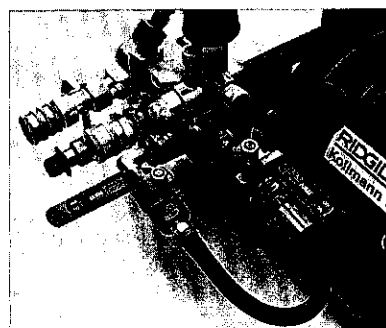

Figure 8. For power washing both valves are "OFF" for maximum pressure.
**For Pressure Washing**, both the green and blue pulse valves must be "OFF" (Figure 8). At these valve settings, the jetter generates maximum pressure for power washing.